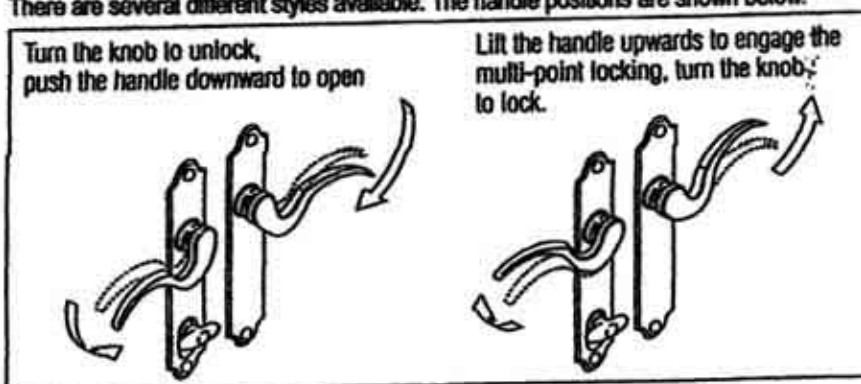

Figure 4-6. Luxe Handle positions
- 3.2 If the sash has a SA-FE-Luxe handle, unlock the dead bolt, and gently depress the SA-FE-luxe handle to open the sash. See fig. 4-6.